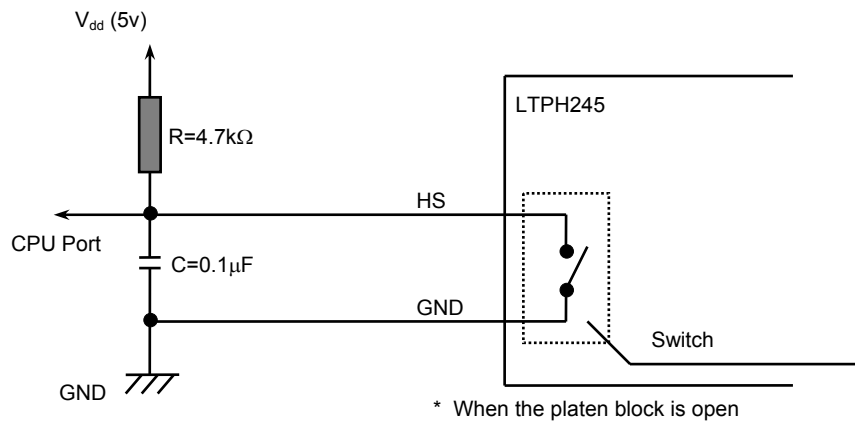

Figure 3-13 Sample External Circuit of the Platen Position Sensor
The printer has a platen position sensor to detect whether or not the platen block is set. The platen position sensor is a switch type sensor shown in Figure 3-13. The platen position sensor switch is closed when the platen block is set and is open when the platen block is released.
- To prevent a malfunction due to chattering of the switch, be sure to use the capacitor shown in Figure 3-13.